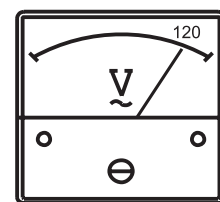

Figure 49. Voltmeter
6. The generator's **AC voltmeter gauge** (Figure 49) will display the generator's output in **VOLTS**.